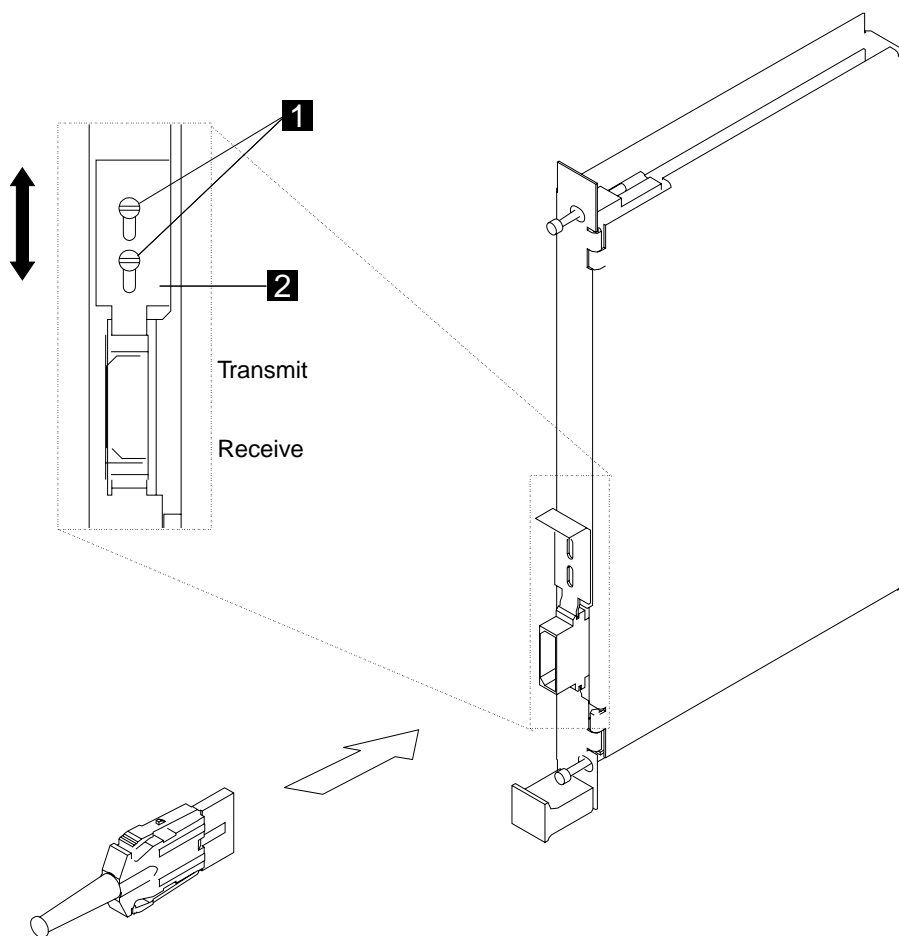

Figure 8-5. ESCA Cable Plugging
2. Obtain the plugging sheets from the customer (prepared using the *3745 Communication Controller Models A and 3746 Expansion Unit Model 900: Migration and Planning Guide*) and plug the ESCA cables as follows: (see Figure 8-5)